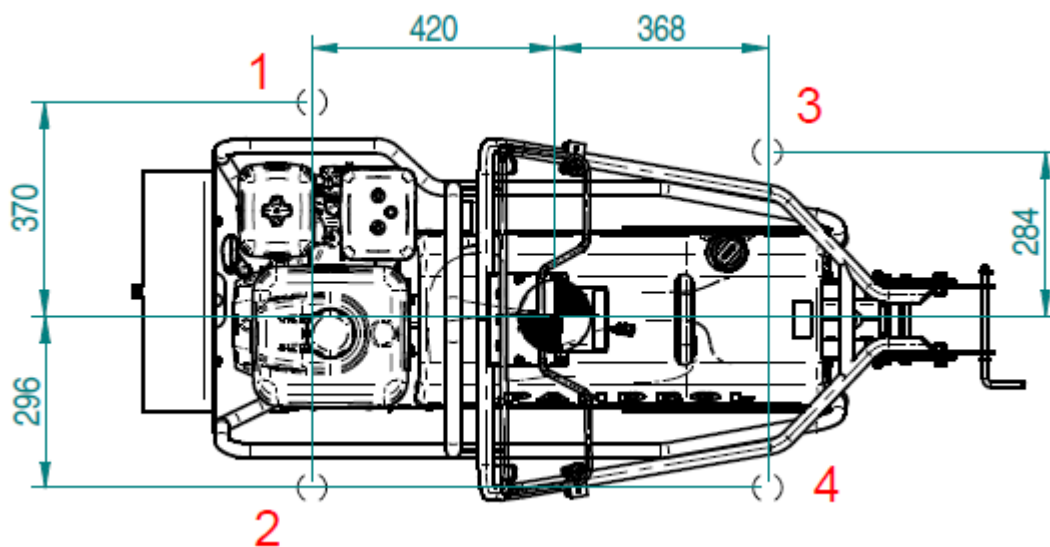

Figure 82.
**Lifting handles see "Figure 82."**